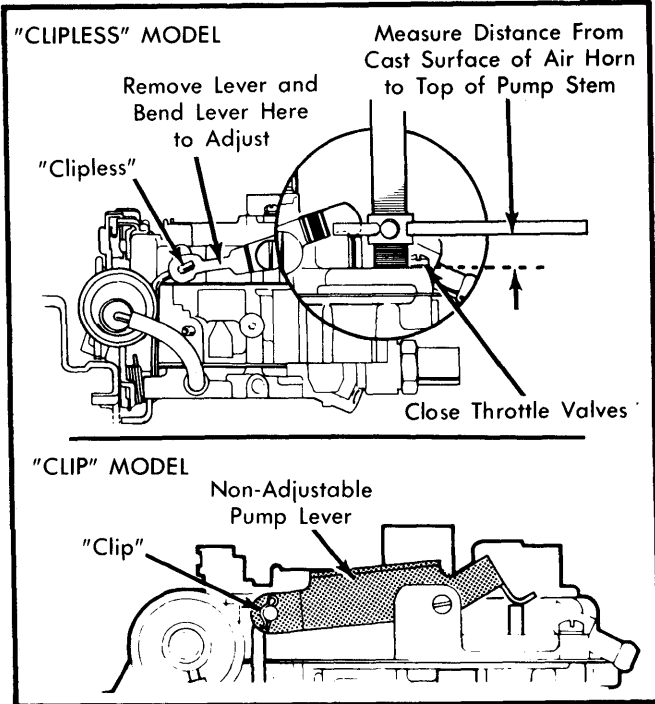

Fig. 3 Adjusting Accelerator Pump
NOTE — If carburetor has a clip retaining pump rod in pump lever, no adjustment is required. If connection is "clipless", pump adjustment should not be changed from original factory setting. See Fig. 3. Adjustment should only be made if specified setting is changed. Pump lever is manufactured from hardened steel, making it difficult to bend. Pump arm should not be removed to make adjustment unless absolutely necessary.
- 1) Close throttle valves completely. Make sure fast idle speed screw is off fast idle cam. See Fig. 3.